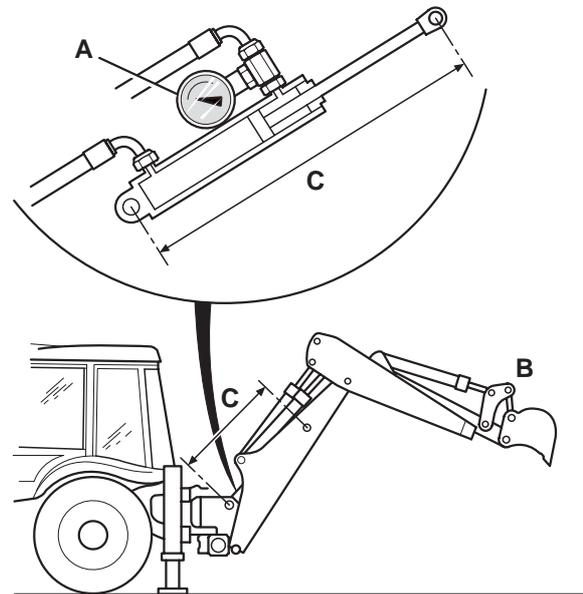

Fig 131.
- 2 Fit an appropriate pressure gauge **A** to a tee piece in the service hose which is pressurised when the ram in question is supported, see → Fig 131. \(□ E-149\).